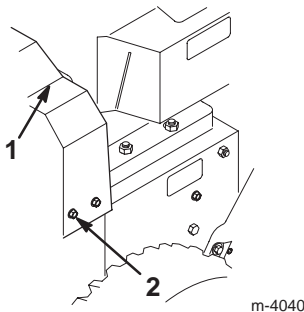

Figure 24
- Remove the 3 bolts that hold the belt cover in place and set the cover aside (Fig. 24).
3. Remove the 3 bolts that hold the belt cover in place and set the cover aside (Fig. 24).